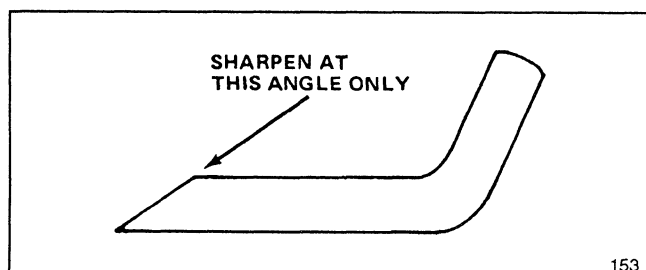

Figure 13
6. SHARPENING BLADE—Using a file, sharpen top side of blade and maintain original cutting angle (Fig. 13). The blade will remain balanced if same amount of material is removed from both cutting edges.